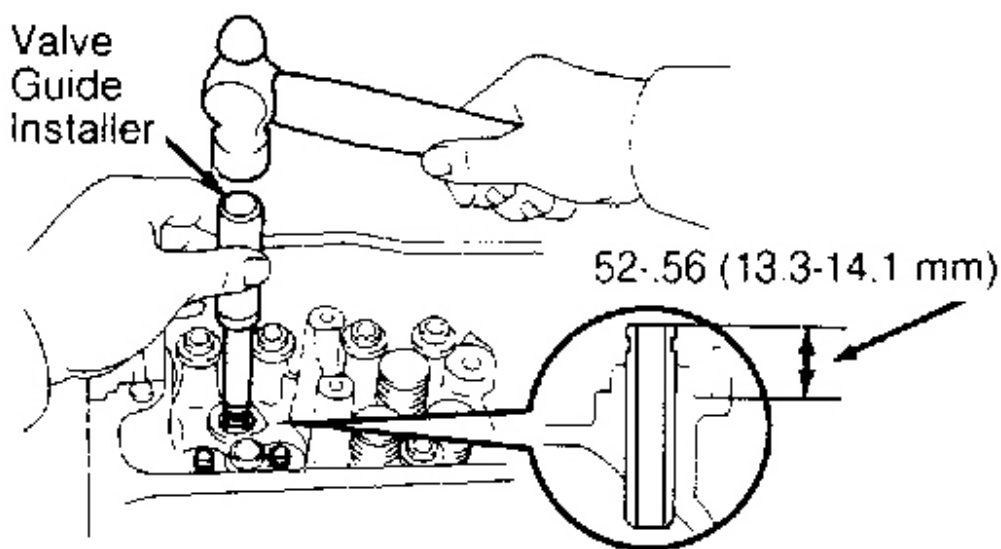

Fig. 13: Measuring Valve Guide Installed Height
2. Using Valve Guide Installer (09201-70010), install new valve guide until protrusion height is .52-.56" (13.3-14.1 mm). See **Fig. 13** . Using a 6 mm reamer, ream valve guide to obtain standard